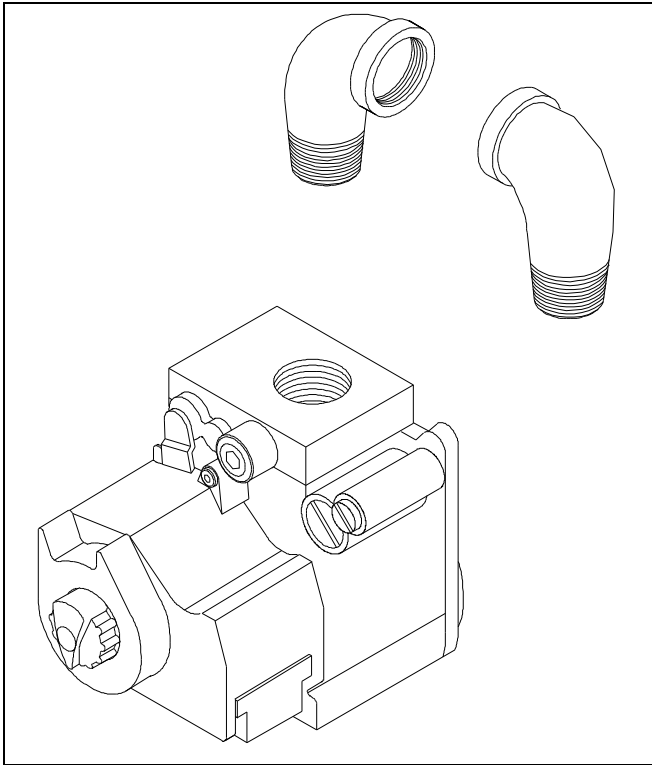

Figure 20. Changing position of elbow for gas line entry.
- Gas line entry may also be routed through the 1 ½ inch hole in the right side of the casing by positioning a 90 degree street elbow (field supplied) on the gas valve as shown in Figure 20.
- For gas line entry through the knockout in the left side of the casing, position a 90 degree street elbow (field supplied) as shown in Figure 20. ½" NPT pipe can now be attached to the furnace gas control from the left side.
- For gas line entry through either of the upper knockouts located in the right and left sides of the casing, remove any attached street from the gas valve, shown in Figure 20. 1/2" NPT pipe can now be routed directly to the furnace gas control.